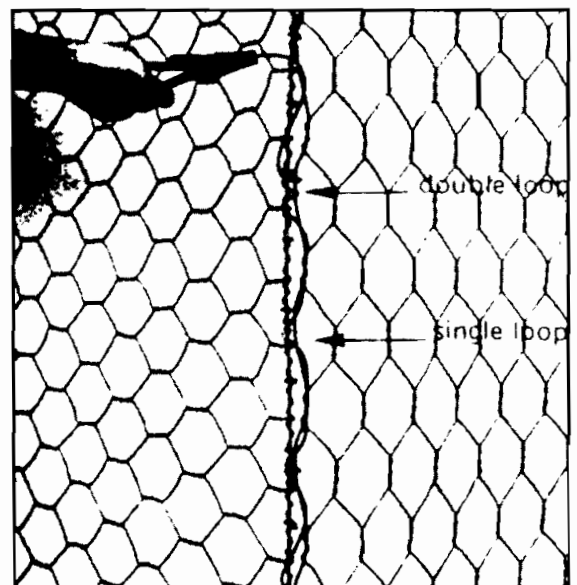

Fig. No. 2
The lacing procedure is as follows: cut a length of lacing wire approximately $1\frac{1}{2}$ times the distance to be laced but not exceeding 5 feet. Secure the wire terminal at the corner by looping and twisting, then proceed lacing with single and double loops at approximately five (5) inch intervals (See Fig. No. 2). Securely fasten the other lacing wire terminal.